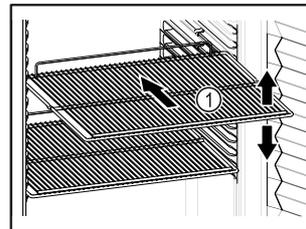

Fig. 88 Example illustration
- If storage surfaces Fig. 88 (1) are movable, adjust them according to height.